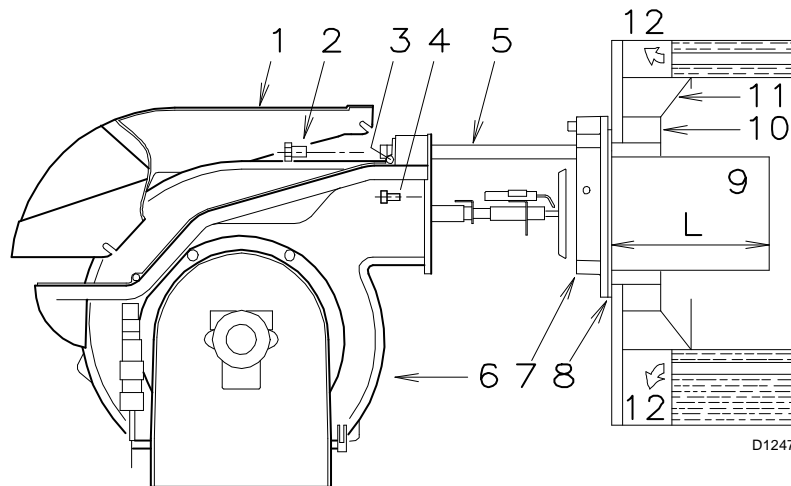

Fig. 7
For boilers having a water-cooled front the refractory fettling 10)-11) (Fig. 7) is not required unless it is expressly requested by the boiler manufacturer.
Secure flange 7) (Fig. 7) to the boiler plate interposing the supplied gasket 8) (Fig. 7). Use the 4 screws provided after having protected the thread with anticruffing products.
- Retract the burner on its slide bars as shown in (Fig. 7 pag. 10).